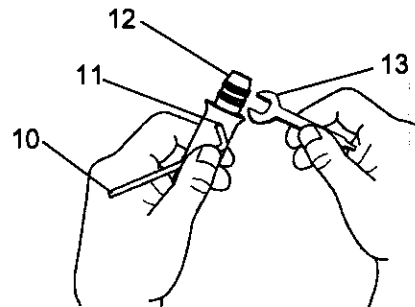

Fig. 4
8. To insert an accessory into the flex shaft collet, rotate collet nut (12) until hole in shaft aligns with hole in flex shaft collar (11) (see Fig. 4). Insert Allen key (10) into aligned holes and use the small flat wrench supplied (13) to turn collet nut counter clockwise.